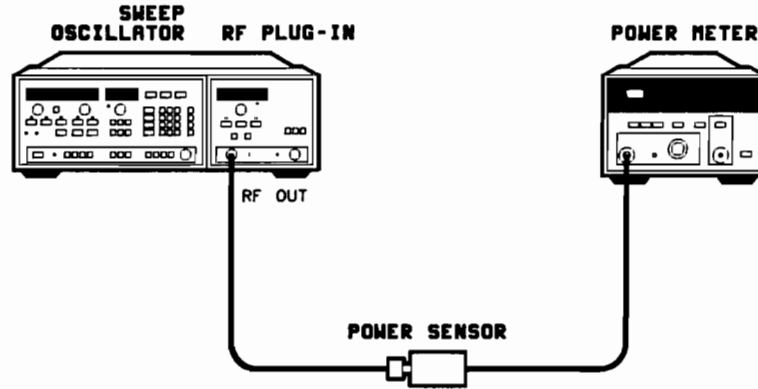

Figure 3-7. Peaking RF Output Power Equipment Set Up
1. Connect the equipment as shown in Figure 3-7, and allow the instruments to warm up for at least 30 minutes.